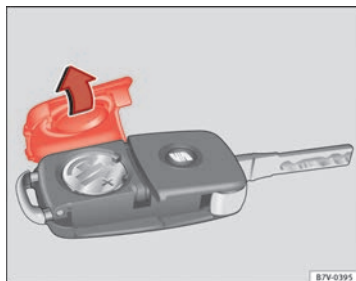

Fig. 15 Vehicle key: battery compartment cover
- Remove the cover from the back of the vehicle key ⇒ Fig. 15 in the direction of the arrow ⇒ ①.
- Fit the battery compartment cover, pressing in the direction of the arrow as shown ⇒ Fig. 15 until it clicks into place.